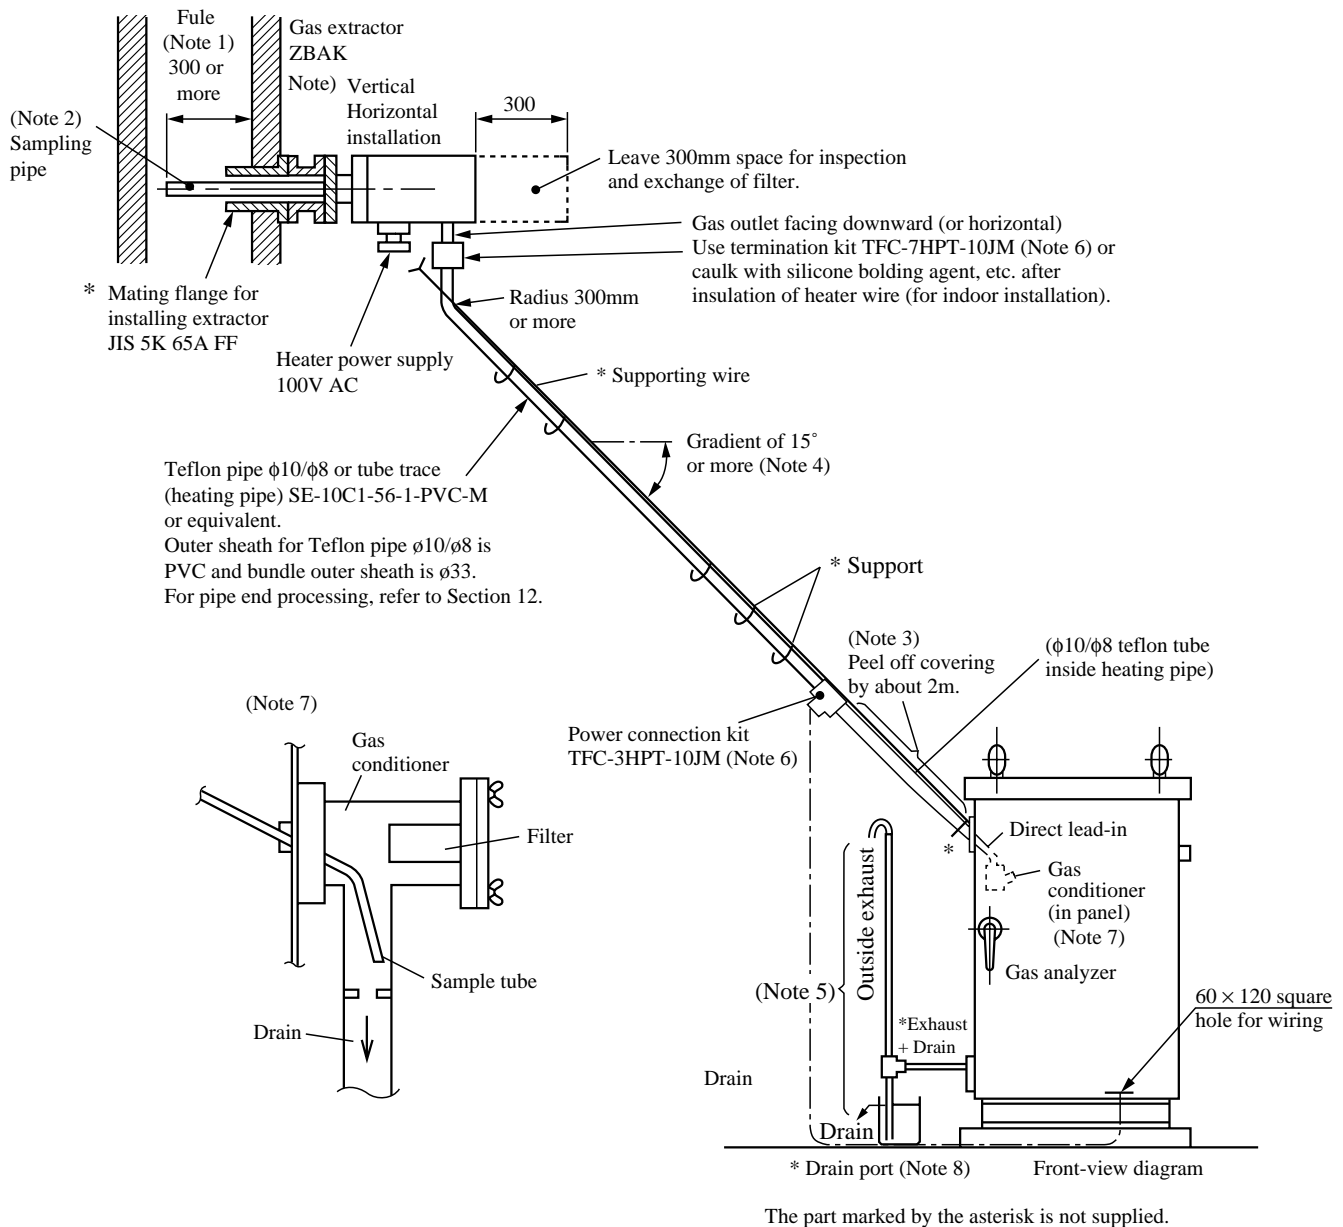

Fig. 4-1 Piping procedure
For installation of the analyzer locker and the extractor, follow the piping instructions in Fig. 4-1 and the separately issued approval drawings (outline diagrams, sampling system diagram).
4.5 Connection of pipes (refer to piping instructions in Fig. 4-1 and separately issued approval drawings)
Make checks with reference to the piping instructions in Fig. 4-1 and the separately issued gas analyzer diagram.